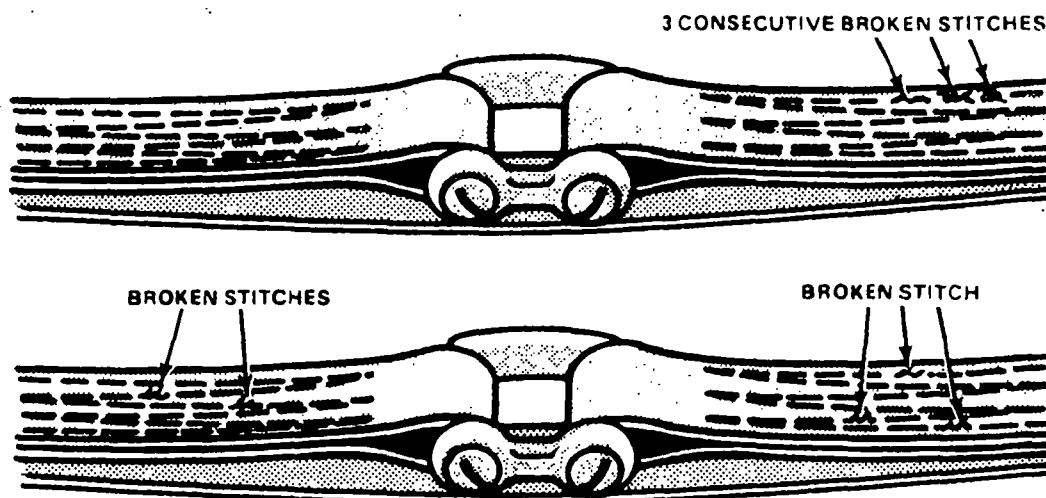

Figure 6-25. Sling with Broken and Loose Stitches
- Three or more consecutive broken and/or loose stitches (Figure 6-25).